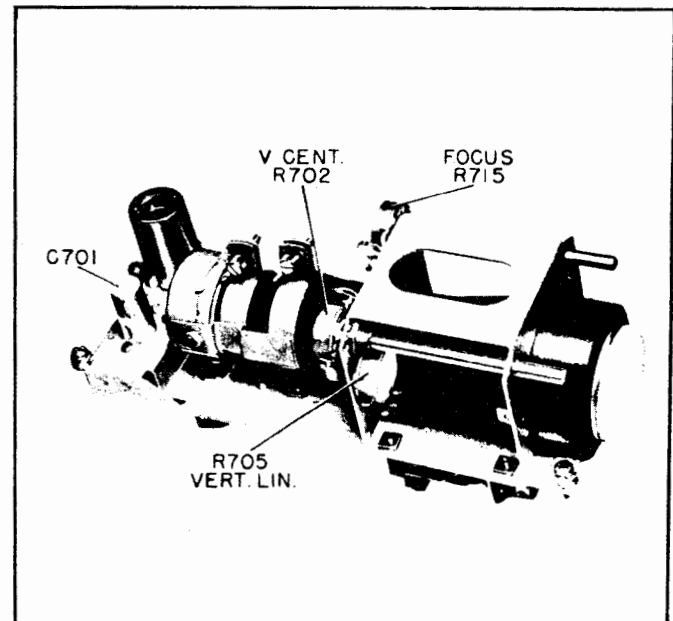

Figure 7-7. Tuning Monitor Chassis, Top View
d. TUNING MONITOR.—See Figures 7-7 and 7-8. Circuit check (resistance and continuity) and tube replacement will locate troubles in the Tuning Monitor. See Table 7-5 for the resistance measurements. See Figures 7-27 and 7-28 for the schematic and wiring diagrams giving electrical part values.